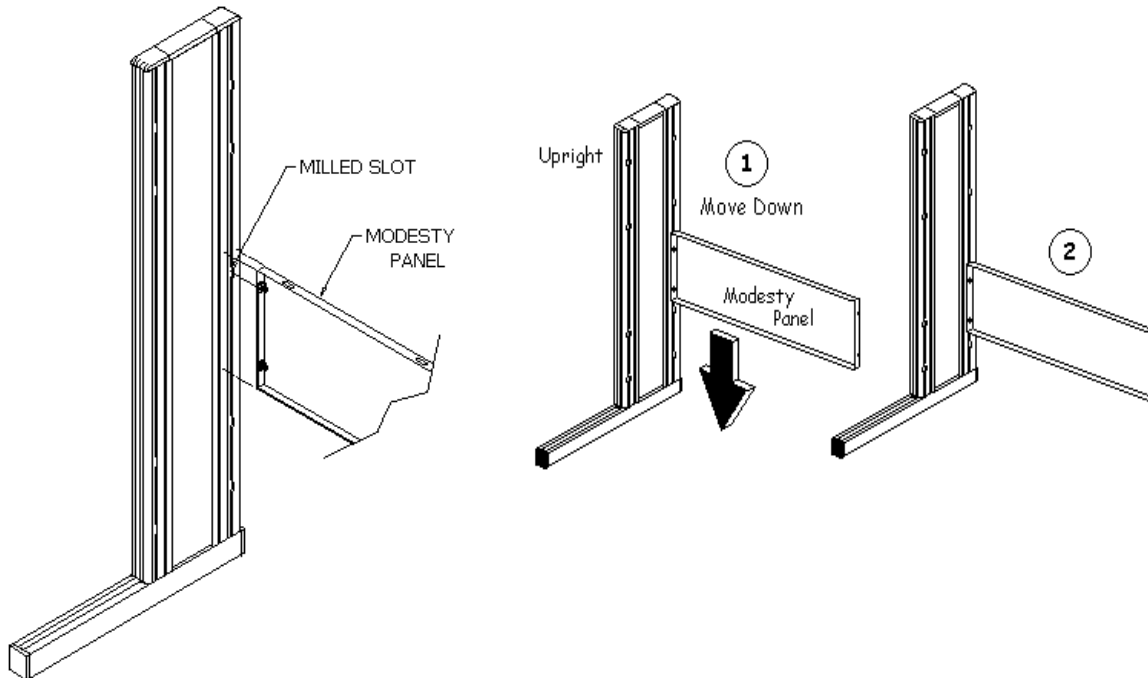

Figure 2
STEP 2: Assemble the 2 uprights of the bench to the rear modesty panel as shown in Figure 2 below using 5/16-18 x .75 square head bolts, 5/16 flat washers and 5/16 hex keps nuts. The top of the modesty panel must be placed 2.5" below the planned starting height of the top of the worksurface. The floor glides in the bases of the uprights must be set so the uprights are parallel to each other in both front to back and side to side. This alignment will make the rest of the assembly go much smoother.